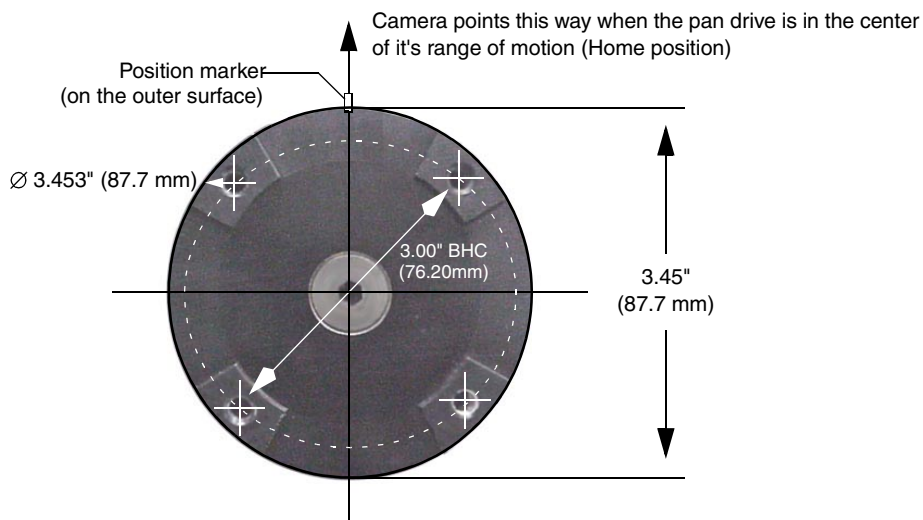

FIG. 4 Mounting-plate dimensions
3. Mount the PosiTrack unit to a flat surface by drilling four holes, according to the mounting-plate dimensions shown in FIG. 4. Secure the unit to the surface using four 1/4" x 20 machine bolts and lock washers. Ensure that the external white position marker, on the pan drive hub, is inside the desired camera rotation range.